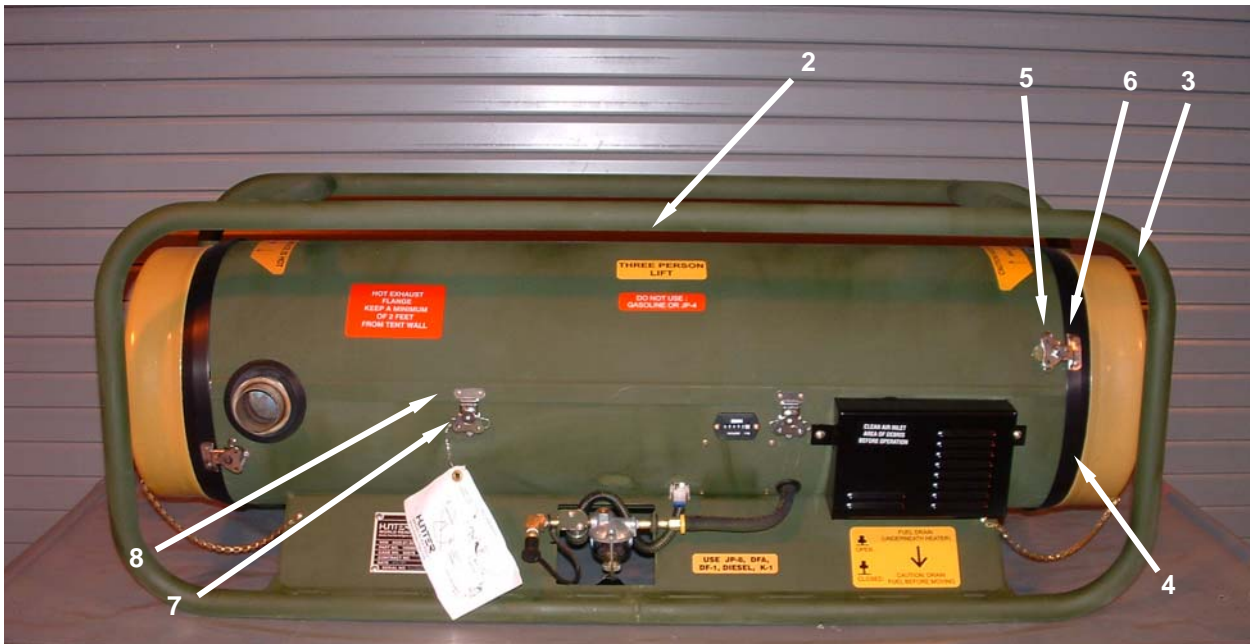

Figure 1. Inspect Burner Assembly.
1. Disconnect battery pack connector (**Figure 1, Item 1**) from lower housing assembly.
2. Remove the upper housing assembly (**Figure 1, Item 2**) by first removing the two dust covers (**Figure 1, Item 3**) at the inlet and outlet ends of the heater.
3. Remove the two duct adapters (**Figure 1, Item 4**) at the inlet and outlet end of the heater by releasing the two fastener housings (**Figure 1, Item 5**) from the fastener keepers (**Figure 1, Item 6**).
4. Remove the upper housing assembly (**Figure 1, Item 2**) by releasing the remaining fastener housings (**Figure 1, Item 7**) from their corresponding fastener keepers (**Figure 1, Item 8**). Lift and remove the upper housing assembly (**Figure 1, Item 1**). Set the upper housing assembly aside.